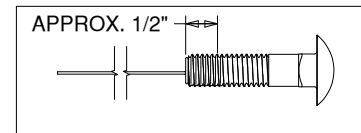
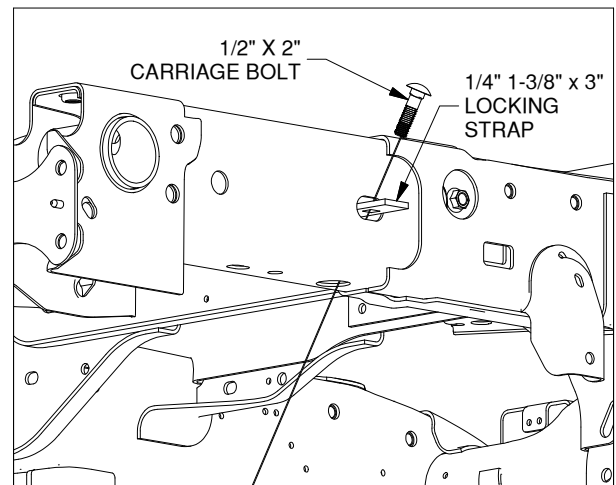

Figure B2: Fish wire diagram.
Figure B3: View looking at passenger side of frame.
- 2. Install the forward mounting location.** Locate the fish wires, 1/4" X 1-3/8" X 3" Locking Straps and two 1/2" X 2" carriage bolts. Thread a Carriage Bolt onto the coil end of the fish wire, see Figure B2. Next, position the locking strap into the hole, half-in/half-out, in the side of the frame as shown in Figure B3. Then pass the straight end of the fish wire through the locking strap and the hole in the side of the frame. Angle the fish wire so that the wire then passes through the forward mounting location in the bottom of the truck frame, see Figure B3. Continue to pass the fish wire through the frame until both the locking strap and the carriage bolt are inside the frame. Pull the threads of the carriage bolt through the locking strap and out of the frame. Make sure that the square shoulder of the carriage bolt is fully engaged in the square hole of the locking strap. Uncoil the fish wire and repeat this process on the other side.